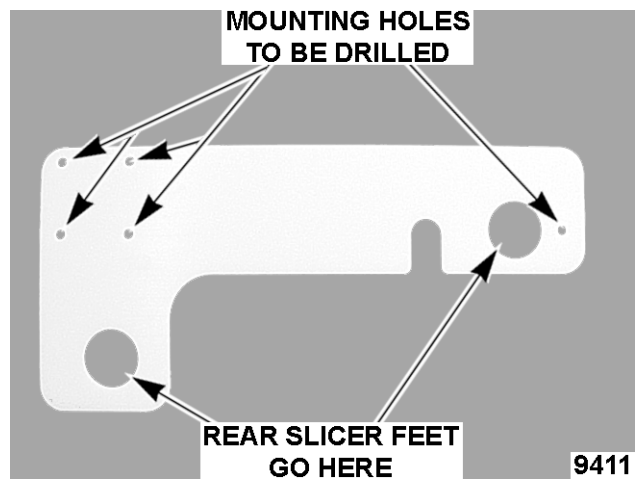

Fig. 1
4. Mark and center punch the five $\frac{9}{32}$ " holes to be drilled (Fig. 1).
7. Install screw to secure right side of skid plate (Fig. 1).